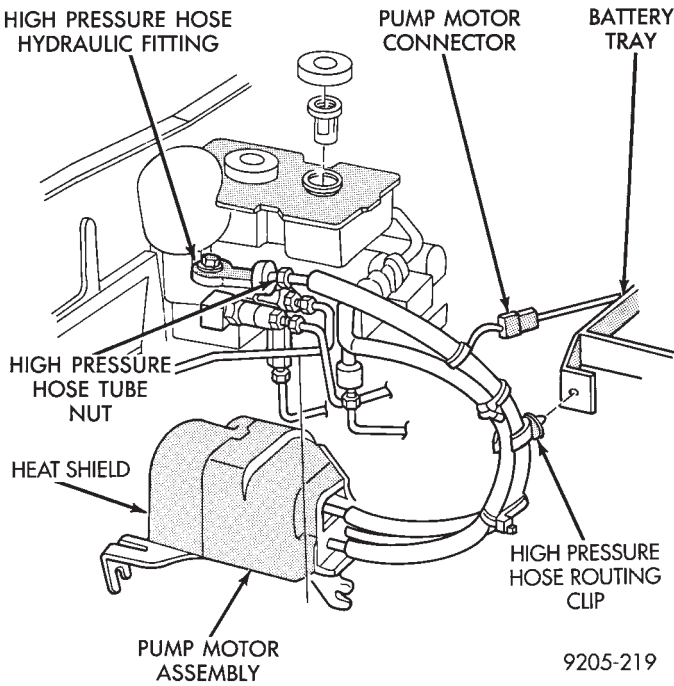

Fig. 5 Brake Tube and Hose Routing
(2) Remove the fresh air intake ducts from the engine induction system.
(3) Loosen the low pressure hose clamp (Fig. 5) at the hydraulic assembly.
(4) Disconnect the high pressure fluid line routing clip from the battery tray (Fig. 5).
(5) Disconnect electrical connectors (including the pump/motor) that runs across the engine compartment, in the vicinity of the pump/motor assembly high and low pressure hoses.
(6) Loosen the high pressure hose tube nut at the hydraulic assembly fitting (Fig. 5).
(7) Remove the high and low pressure hose assembly (Fig. 5) from the hydraulic assembly. Cap all open ports on reservoir and hydraulic assembly to prevent brake fluid from leaking out.
(8) Disconnect the pump/motor electrical connector (Fig. 5) from the engine mount.
(9) Remove the pump/motor assembly heat shield bolt, from front of pump bracket.
(10) Remove front heat shield.
(11) Lift pump/motor assembly from bracket and remove assembly from the vehicle.
(1) Install pump/motor assembly in reverse order of removal.
(2) Tighten the pump/motor assembly fluid lines to the torque values shown below.
- High pressure hose fitting to pump/motor assembly. 16 N•m (145 in. lbs.) Fig. 5.
CAUTION: Be sure the high pressure hose routing clip, is securely fastened to the battery tray and hose, when hose is reinstalled (See Fig. 5).